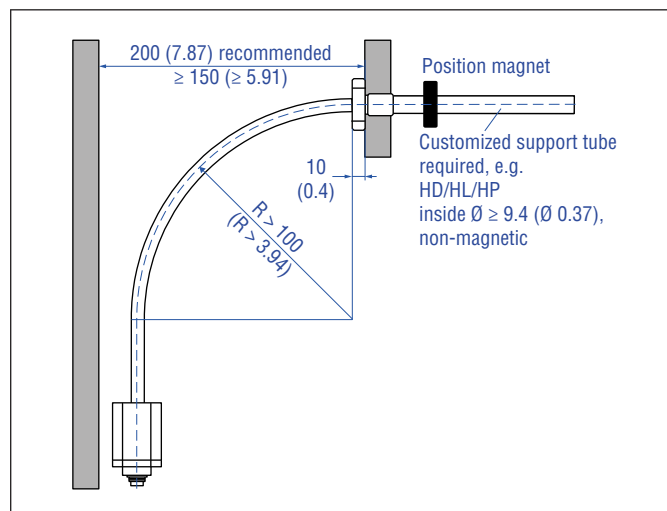

Fig. 19: Clearances for installation and handling
3. Note the minimum distance to a spatial limitation of 150 mm (5.91 in.), when mounting/dismounting the sensor. The recommended distance is 200 mm (7.87 in.) (Fig. 19).